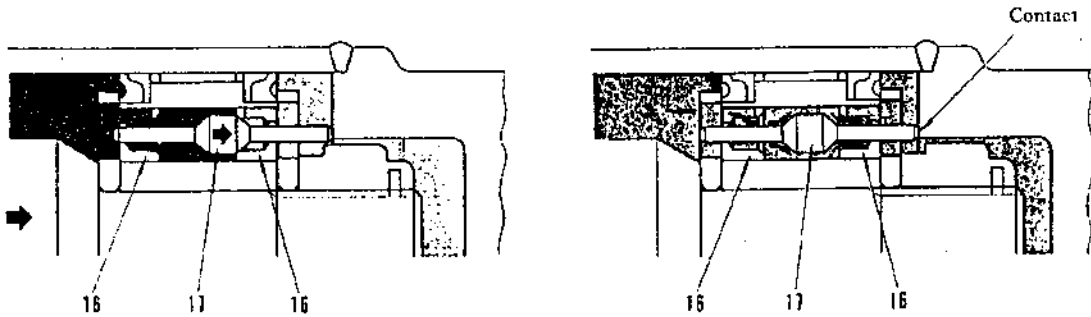

Fig. 2-55 Working principle of buffer valve
To avoid hydraulic shock and too high pressure when the piston moves to the cylinder head or bottom, the buffer valve (17) is installed. Its working principle is as follows: The pressurized oil pushes piston (15) (See Fig. 2-55) to the cylinder bottom. When the piston approaches to the cylinder bottom, the front end of the buffer valve rod contacts the cylinder bottom, that is, the buffer valve rod leaves the conic seal surface, the front chamber and the rear chamber of the cylinder are connected together and the oil pressure releases to decelerate and discharge.